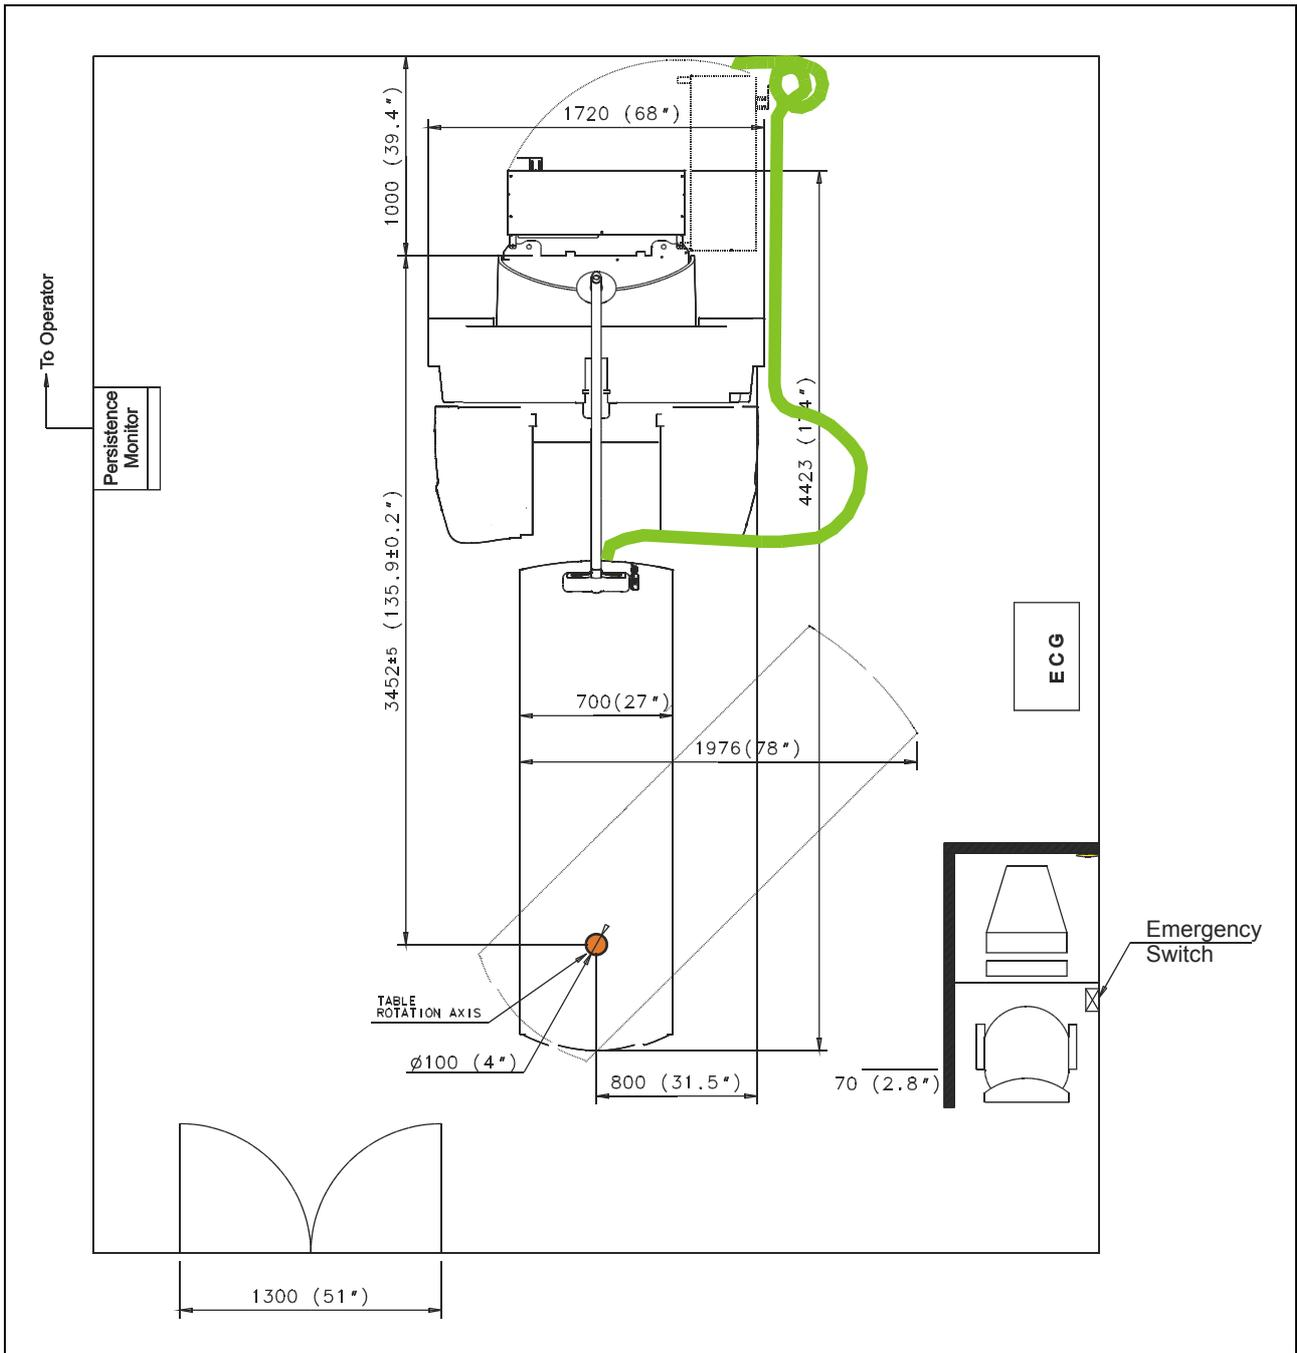

Figure 4-16 Above Ground Cable Layout
See Section 4.7.3.2 and Figure 4-16.
- An example of locations and measurements of floor ducts is provided in Figure 4-16.
A diagram detailing the above ground cable layout is shown in Figure 4-16